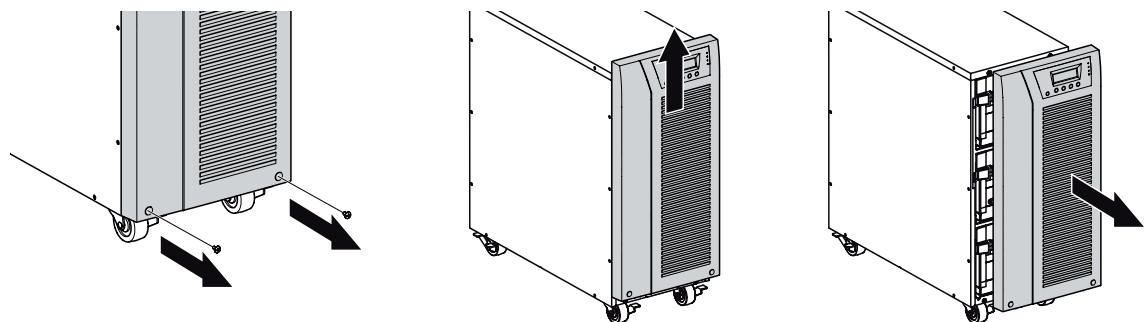

Figure 27. Removing the UPS front cover.
1. Remove the UPS front cover (see figure 27).